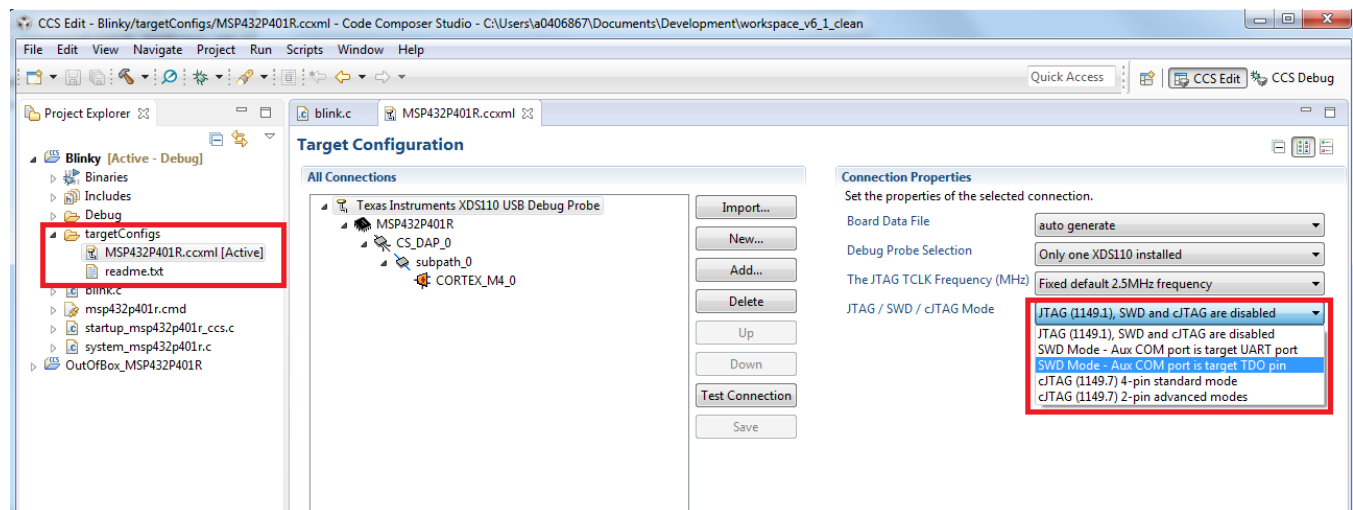

Figure 47. Change Debugger Settings to SWD
- Check the debugger settings: change to *SWD Mode – Aux COM port is target TDO pin*. When the settings of Port J (PJSEL0 and PJSEL1 bits) are changed, full JTAG access is prevented on these pins. Changing to use SWD allows access through the dedicated debug pins only. Figure 47 shows how to configure the debugger to use SWD instead of JTAG by modifying the MSP432P401R.ccxml file.